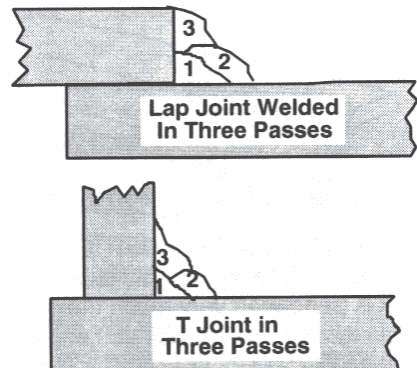

Figure 19. Fillet Weld Joints
**Fillet Weld Joints.** Most fillet weld joints, on metals of moderate to heavy thickness, will require multiple pass welds to produce a strong joint. The illustrations in Figure 19 show the sequence of laying multiple pass beads into a T fillet joint and a lap fillet joint.